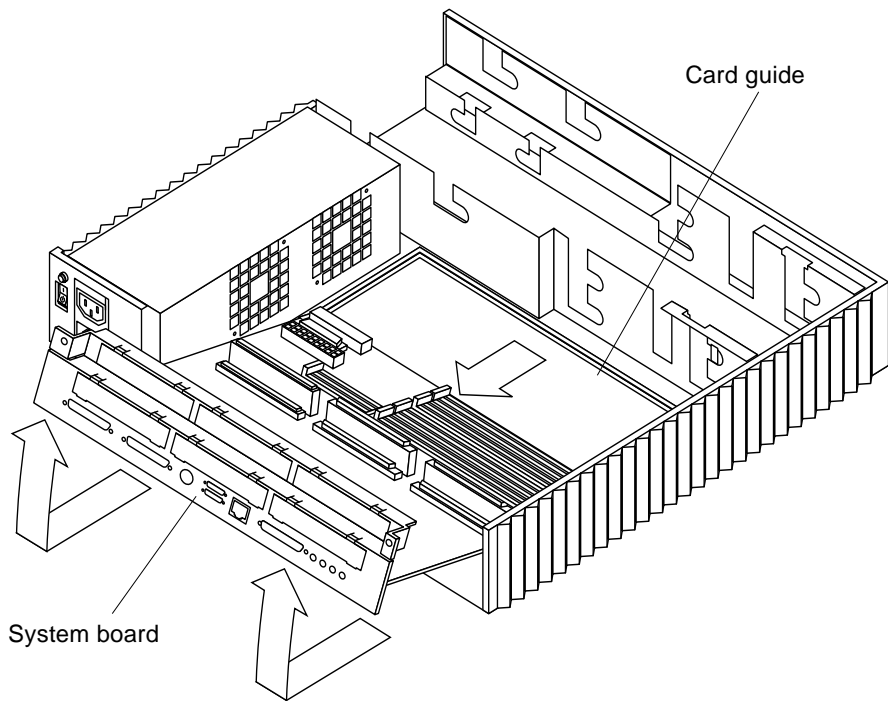

FIGURE 11-38 Removing the System Board
6. Slide the system board toward the back of the chassis until it clears the plastic card guide (FIGURE 11-38).